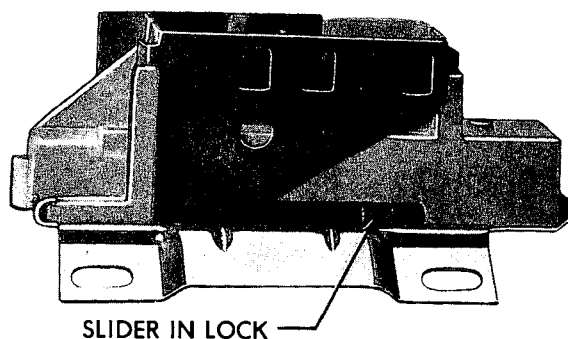

Figure 3G-118 - Ignition Switch Slider
32. When installing the ignition switch, be sure the lock cylinder is in "Acc" position. Position by moving slider to extreme right. Fit the actuator rod into slider hole and assemble to column. Lightly push switch down the column to take out lash in rod and tighten screws. Do not move switch out of detent. Tighten to 35 in-lbs. Figure 3G-118.
34. Install wire protector over wires and on mast jacket. Install mounting bracket. See Figure 3G-103.